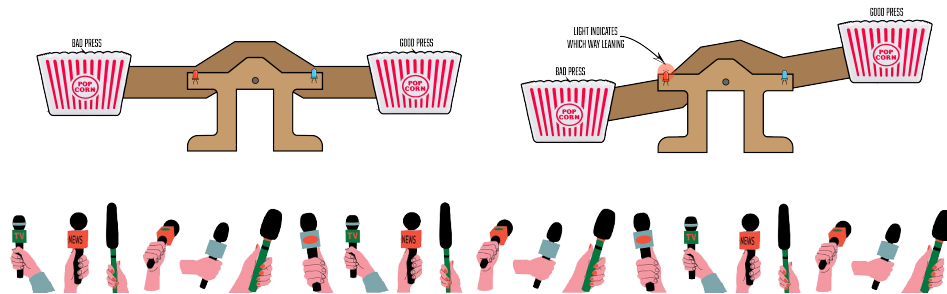

Figure 2: Side view of the press scales.
- ☐ As seen in Figure 2, there are four baskets. You should only be interacting with two: your good press basket and the opponent's bad press baskets. You must navigate out of the loading area and deposit your press to one or both of the aforementioned baskets.